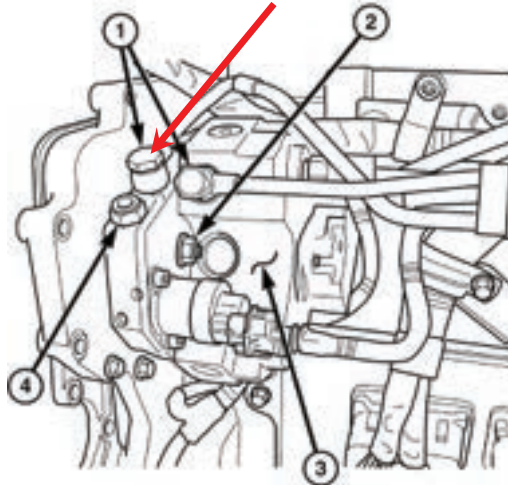

Figure 19
- 5b-1. Remove the 12mm banjo bolt and original factory fuel supply line at the fuel inlet port of the CP3 pump (Figure 19) using a 17mm wrench.